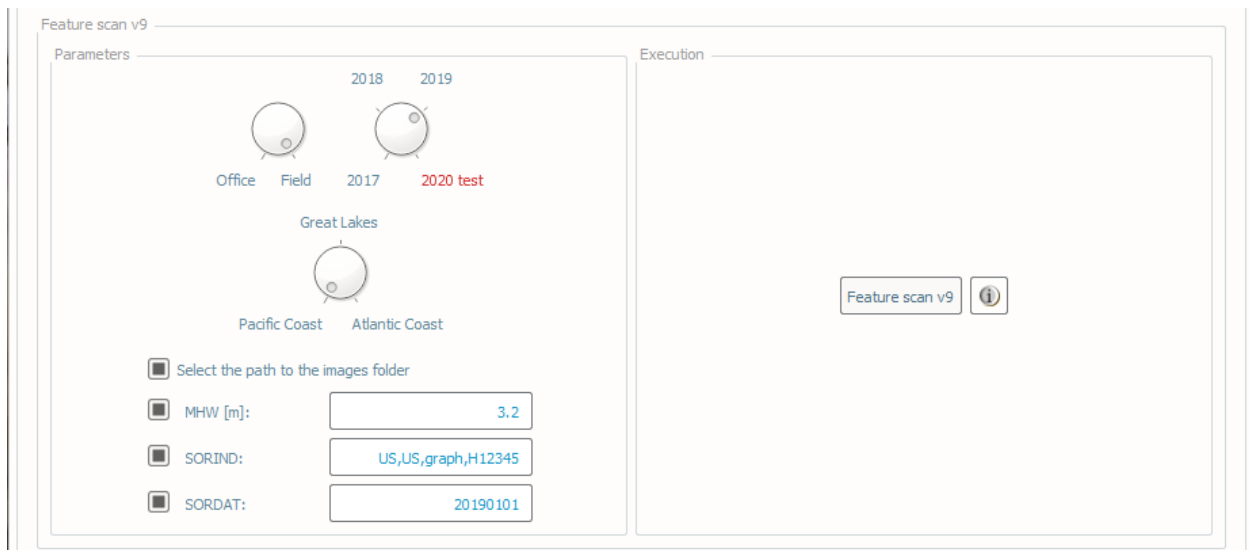

Fig. 2.25: The **Scan features** tab.
- Select the **Scan features** tab (Fig. 2.25) on the bottom of the QC Tools interface.